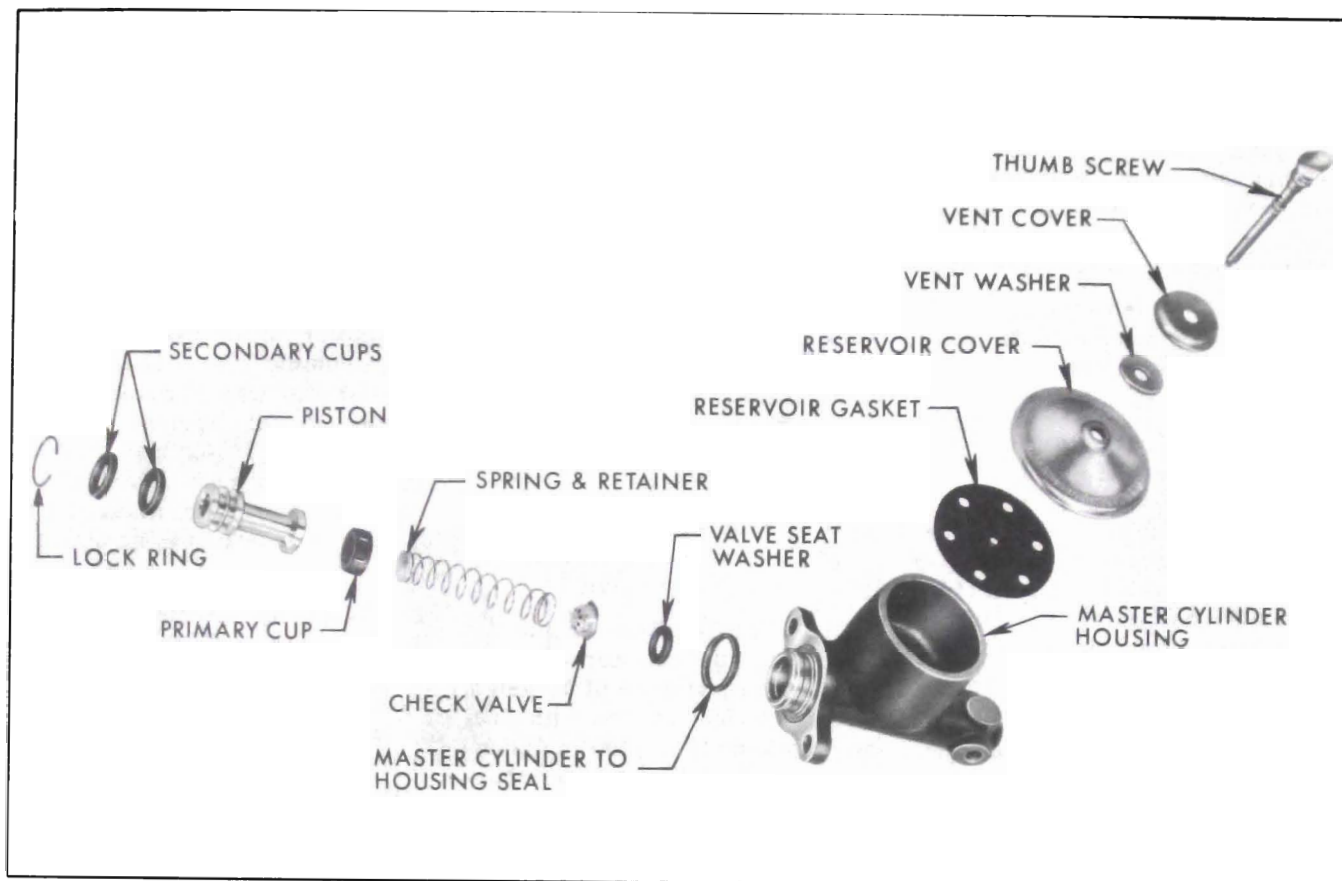

Figure 9-24—Internal Parts of Master Cylinder
3. Wipe master cylinder bore with a coat of clean brake fluid. Into bore, place valve seat washer. See Figure 9-24. Press check valve in open end of spring and retainer; place assembly in bore with check valve down. Dip primary cup in clean brake fluid and place in bore with lip down. Insert master cylinder piston and place snap ring in place.